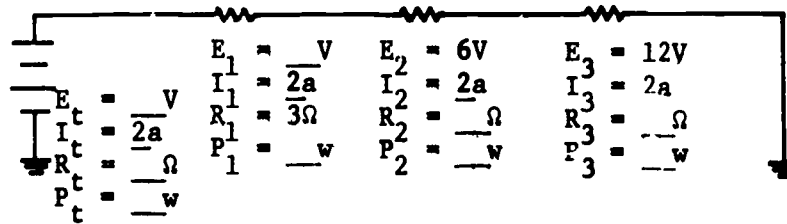
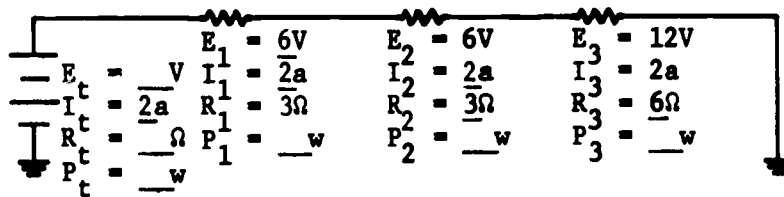

Figure 3.
Figure 4.
5. Figure 3 is the same as figure 2 with the values found in step 4 written down.
6. Now we can use Ohm's law formulas to find the values of  $E_1$ ,  $R_2$ , and  $R_3$ .  $E_1 = I_1 \times R_1 = 2 \times 3 = 6V$ .  $R_2 = E_2/I_2 = 6/2 = 3$  ohms.  $R_3 = E_3/I_3 = 12/2 = 6$  ohms. Fill in these values in figure 3.
7. Figure 4 is the same as figure 3 with the values found so far written down.
8. Now we can use the resistance formulas. Thus,  $R_t = 3 + 3 + 6 = 12$  ohms. Fill in 12 ohms for  $R_t$  in figure 4. Now we can use the formula  $E = I \times R$  to find  $E_t$ . Thus,  $E_t = I_t \times R_t = 2 \times 12 = 24V$ . Fill in 24V for  $E_t$ .
9. Now we can use the power formula  $P = I \times E$  to find  $P_1$ ,  $P_2$ ,  $P_3$ , and  $P_t$ .  $P_1 = 2 \times 6 = 12w$ .  $P_2 = 2 \times 6 = 12w$ .  $P_3 = 2 \times 12 = 24w$ .  $P_t = 2 \times 24 = 48w$ . Fill in these values in figure 4.